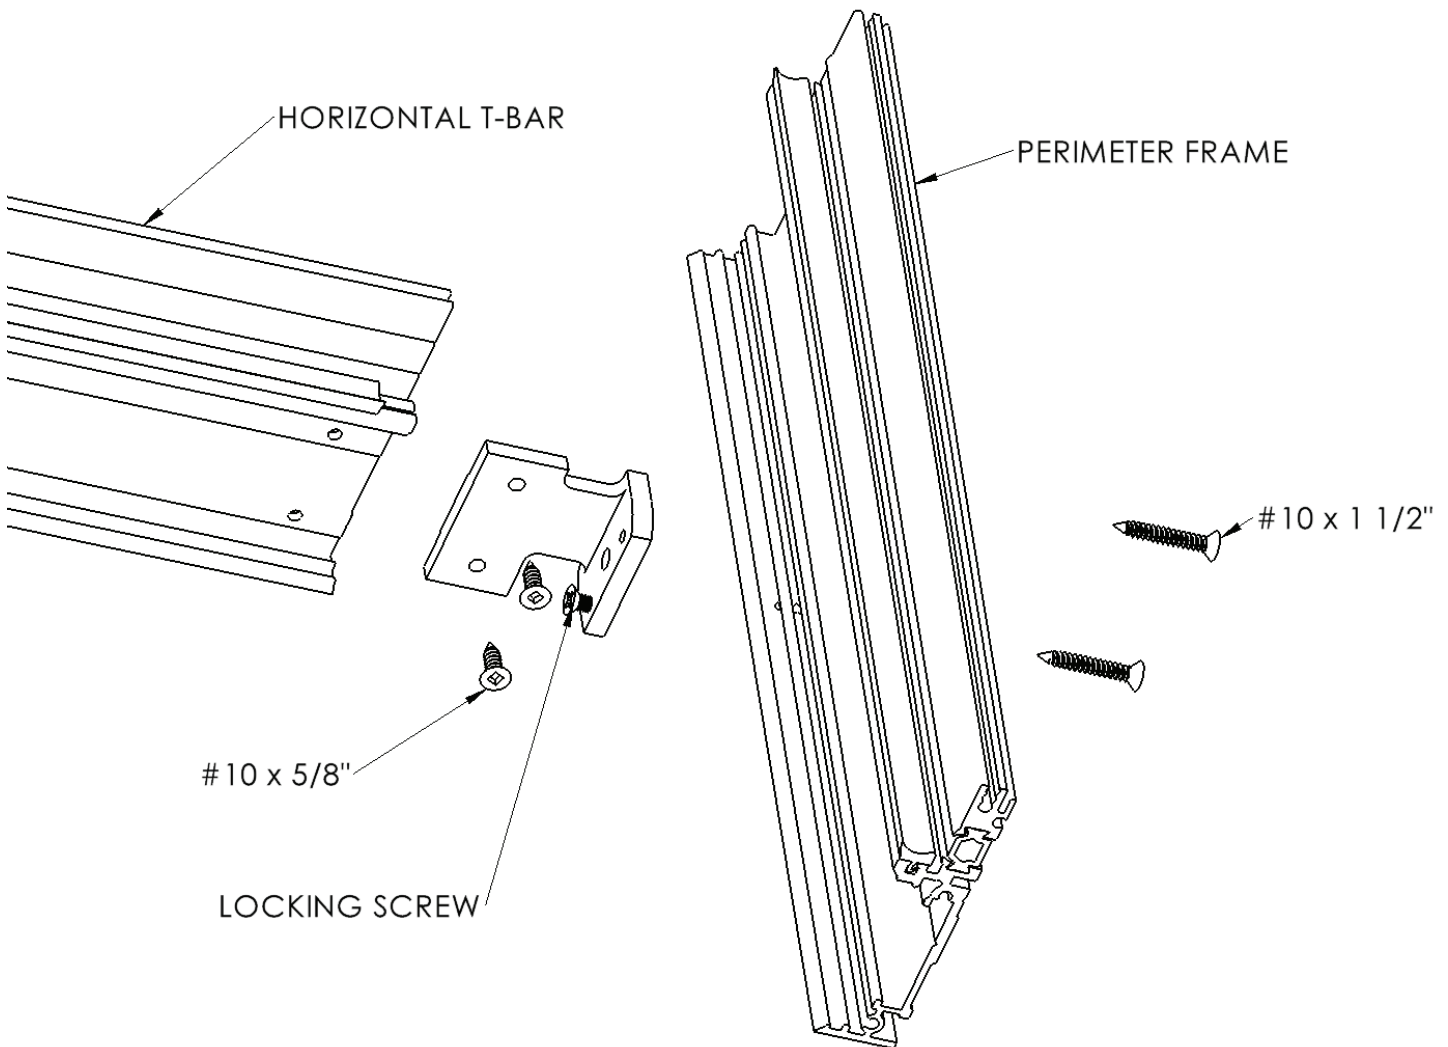

Figure 16
8. Insert the brackets for the horizontal T-bars into the jambs, verify that it is in the correct location, and lock into place using the locking screw. See figure 16.